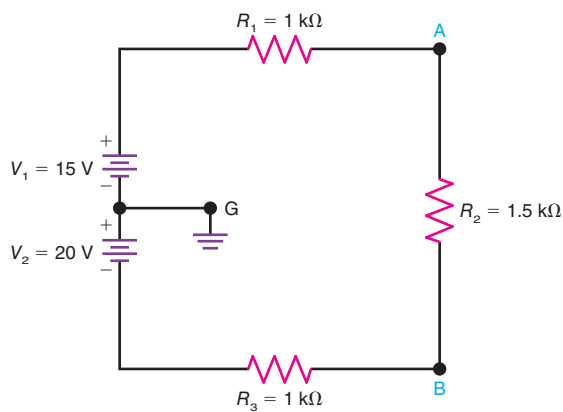

Figure 8-17
8.8 In Fig. 8-17, solve for the voltages V_{AG} and V_{BG} . Indicate the proper polarity for each voltage.